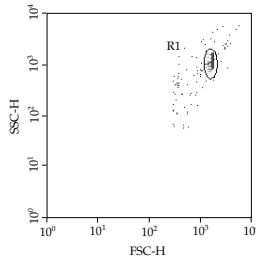

Figure 3a
Adjust gate R1 so that the singlet bead population is located in gate R1 (Figure 3a).
6. In setup mode, run tube no. 1 and using the FSC vs. SSC dot plot, place the R1 region gate around the singlet bead population (*See Figure 3a*).